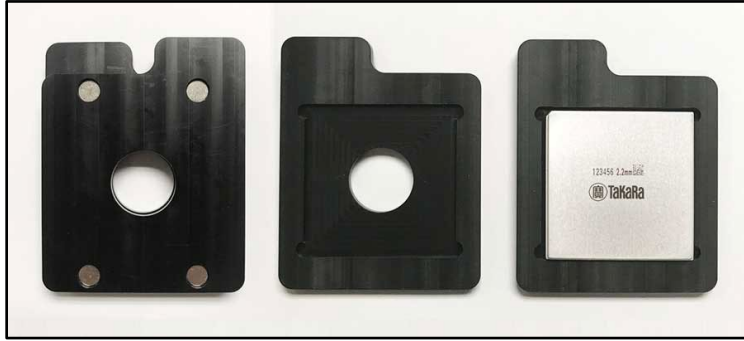

Figure 6. ICELL8 Chip Holder.
- Prefreeze ICELL8 Chip Holder(s) (Figure 6, below) at -80°C .
- Pre-freeze the empty Chip Holder (Figure 6, above) at –80°C, if that was not done in the previous step (Section V.A).